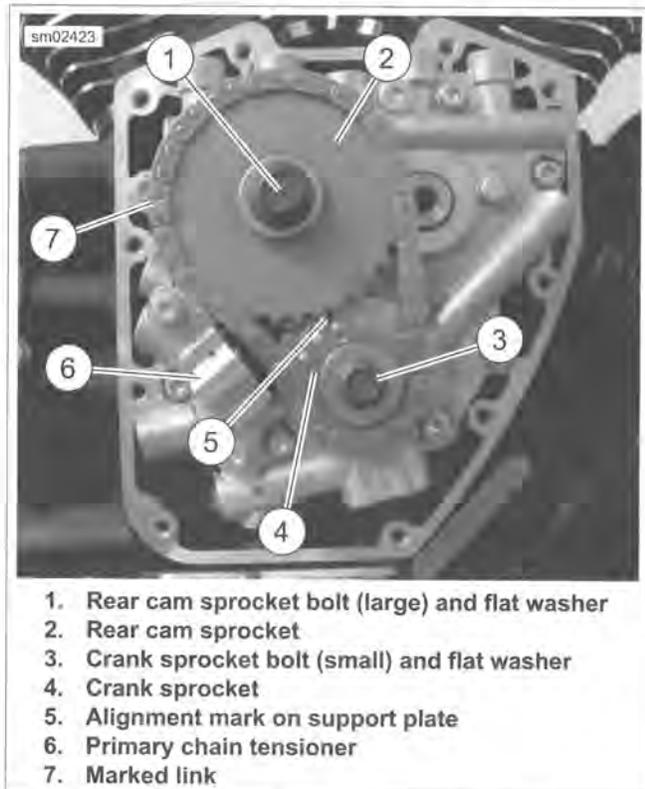

Figure 3-111. Primary Chain and Sprockets
9. See Figure 3-111. Apply a light film of SCREAMIN' EAGLE ASSEMBLY LUBE to splines on rear cam. Install the primary cam chain and sprocket assembly.
- a. Place both cam sprockets (2, 4) in the primary chain with the timing marks aligned. Verify that the colored mark placed on the chain link (7) is on the same side as the timing marks and is visible during installation.
10. Rotate the crankshaft clockwise until the timing marks on the sprockets are aligned and also aligned with alignment mark (5) on cam support plate.